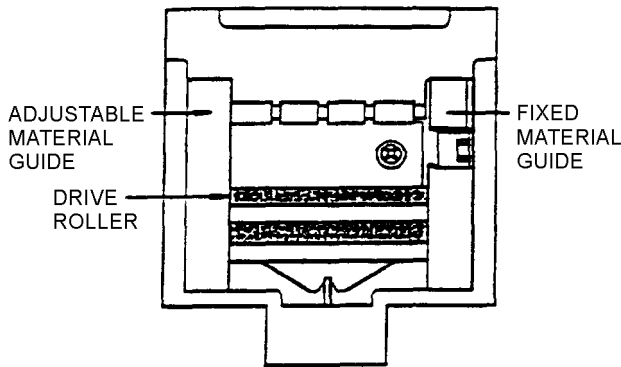

Figure 23. Drive Roller
b. The drive roller is a rubberized roller located directly under the fixed and adjustable material guide. Push down on adjustable material guide and slide left/right in order to access the entire drive roller (Figure 23)